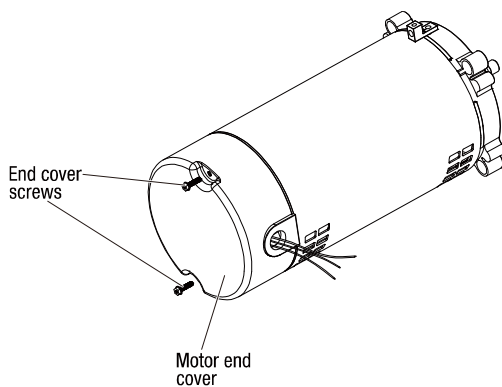

FIG.1
- ☐ remove the motor end cover (FIG.1)